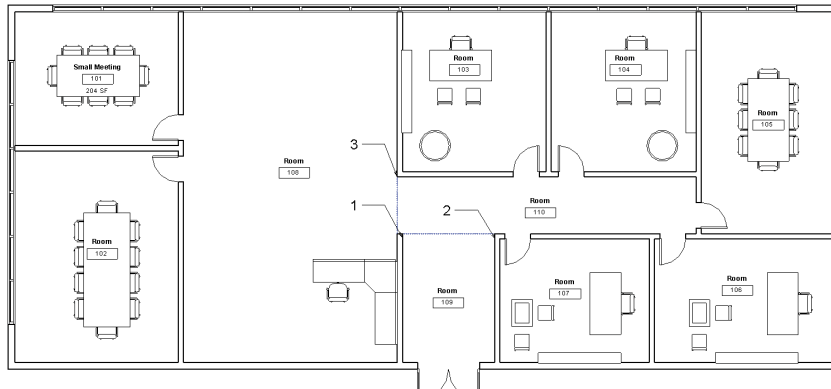

FIGURE 8.10 Adding room separation lines
8. Add rooms and room tags to the subdivided open space, as shown in Figure 8.10.